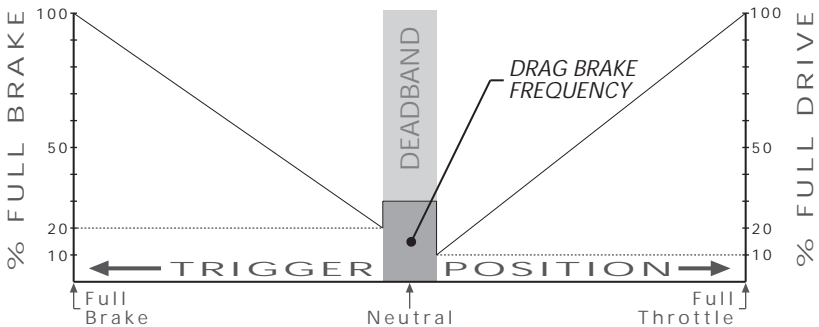

Figure 9: Graphical location of area affected by Drag Brake Frequency when the Drag Brake Toggle is OFF.
–The Drag Brake Frequency (Figure 9) controls deceleration characteristics of vehicle with Drag Brake during Neutral/Deadband. Changing the Drag Brake Frequency changes the manner in which the vehicle responds to Drag Brake.